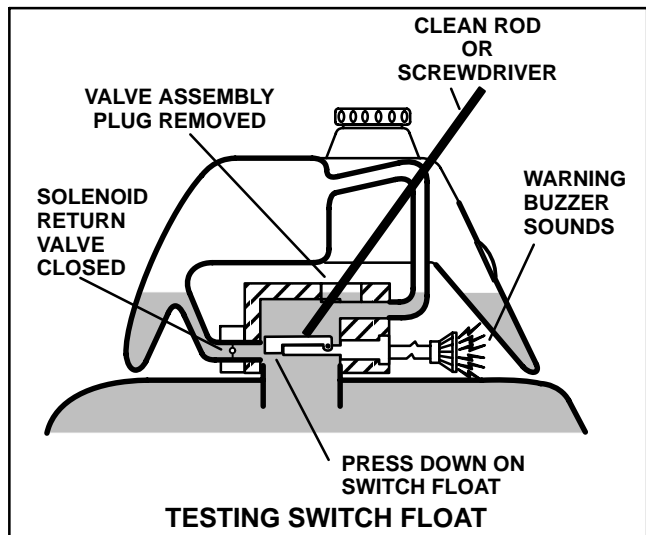

Figure 15
4. Insert clean rod or screw driver into valve assembly and gently push down on switch float (Fig. 15). Alarm should sound after one second delay.